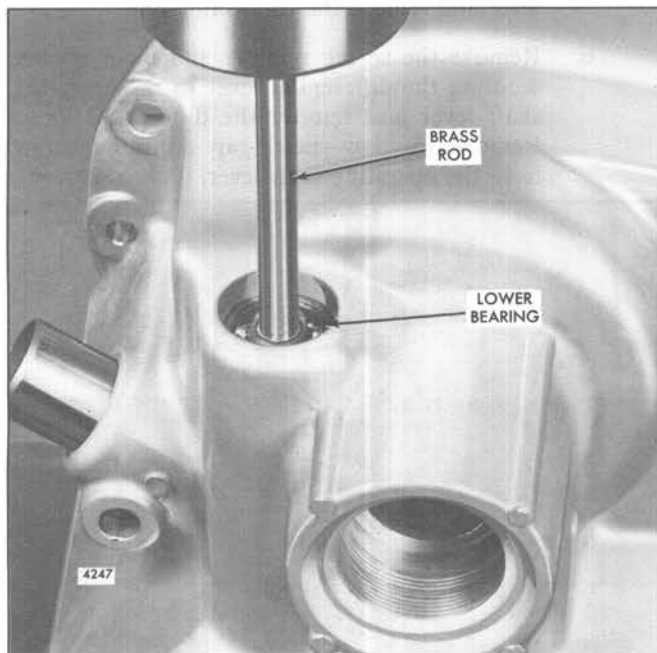

Fig. 15 - Removing Operating Shaft from Operating Shaft Lower Bearing
- f. Support the governor housing bottom side up on the bed of an arbor press, with the two dowel pins in the top of the housing between the two steel supports. Place a small brass rod on the end of the operating shaft and press the shaft out of the bearing (Fig. 15).